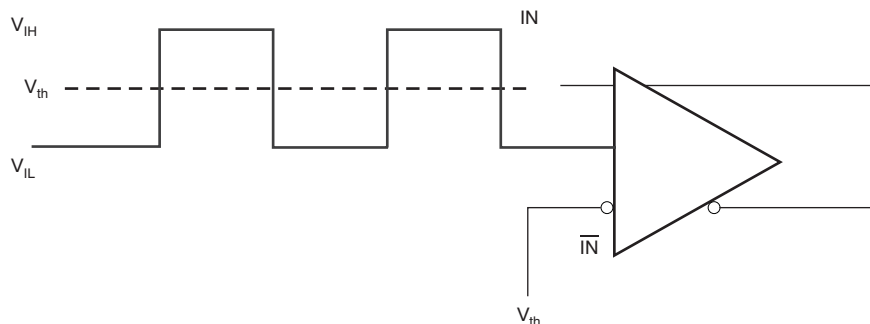
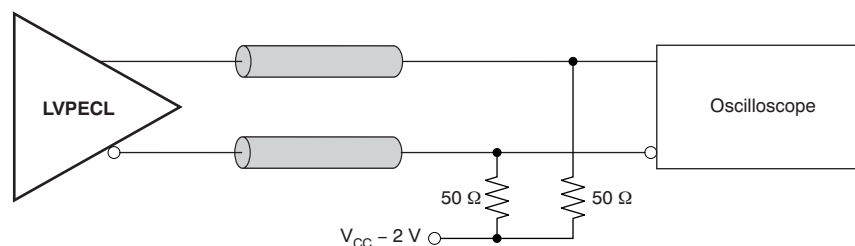
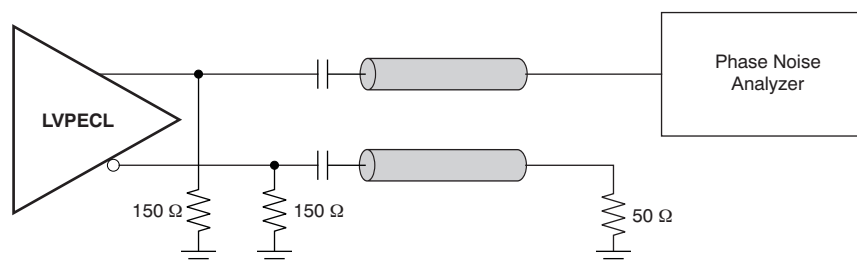

Figure 3. DC-Coupled LVCMOS Input During Device Test
Figure 8. LVPECL Output DC Configuration During Device Test
Figure 9. LVPECL Output AC Configuration During Device Test
(1) Figure 8 and Figure 9 show dc and ac test setup.
This section describes the function of each block for the CDCLVP2106. Figure 3 through Figure 9 illustrate how the device should be setup for a variety of test configurations.